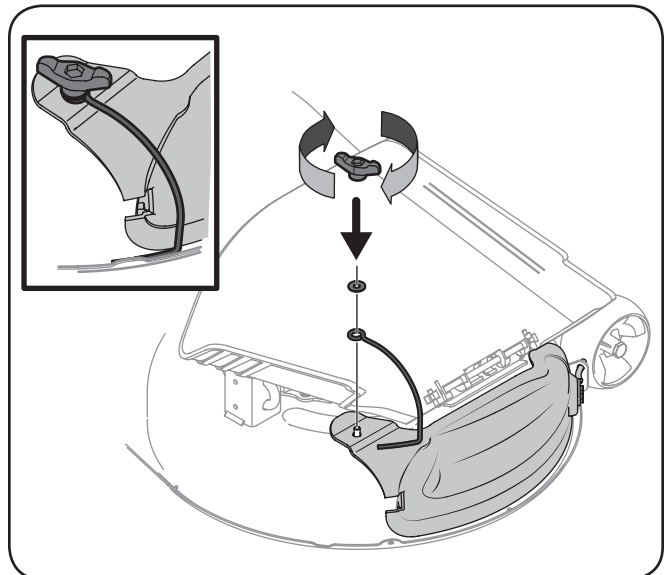

Figure 1-6
3. Slide the mulch plug wire (747-06686) over the pin on the deck's surface, position the washer over the wire, and secure the mulch plug with the wing knob. See Figure 1-6.
NOTE: Make sure that the wing knob is snug, and the wire is positioned inside the lip of the deck to keep the mulch plug securely in place. See the inset in Figure 1-6.